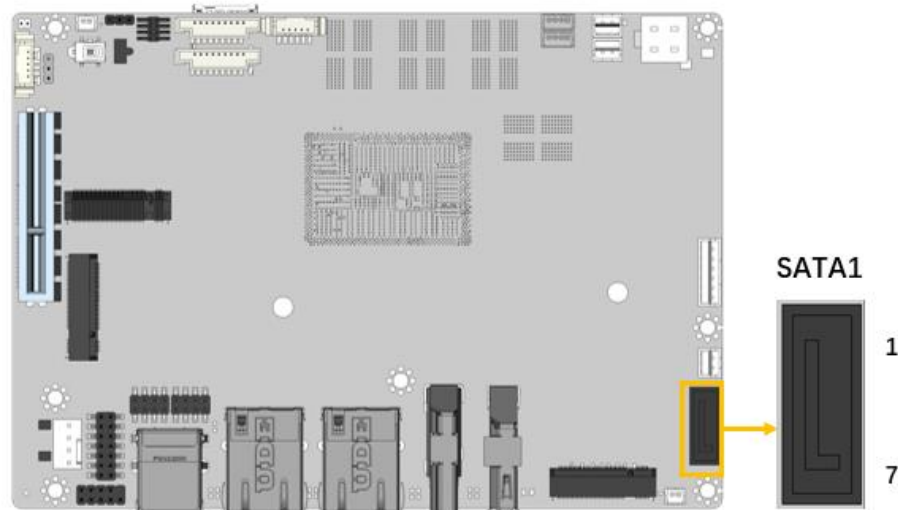

Figure 3-16: SATA 6Gb/s Drive Connectors Location
- CN Location:** See **Figure 3-16**